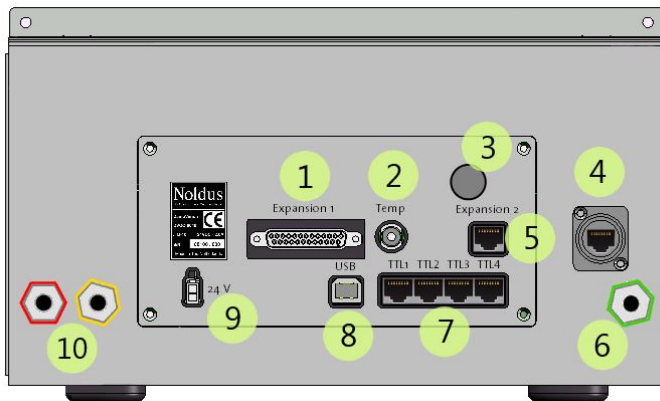

Figure 3 The back panel of the DanioVision Observation Chamber. See text for explanation. The label with the CE marking contains the product version.
- All four TTL lines **TTL 1** to **TTL 4** are available for communication with external devices. For connecting custom hardware, additional expansion connectors **Expansion 1** and **2** are available. See Figure 3 on page 15.
The back panel of the DanioVision Observation Chamber contains the following connections (see Figure 3 below):
Connect the DanioVision Observation Chamber's **24 V** socket (**9** in Figure 3) to the power supply using the power cable and adaptor.
Use the Ethernet cable with the large round connector to connect the digital video output of the DanioVision Observation Chamber (**4** in Figure 3) to the Ethernet port labeled **DanioVision camera** on the EthoVision XT computer.
Use the USB cable that comes with DanioVision to connect the **USB** port of the DanioVision Observation Chamber (8 in Figure 3) to a USB port on the EthoVision XT computer. Do this only if:
6. Connect the DanioVision camera to the port of the Ethernet card using a network cable (see **D** in Figure 3 on page 15).